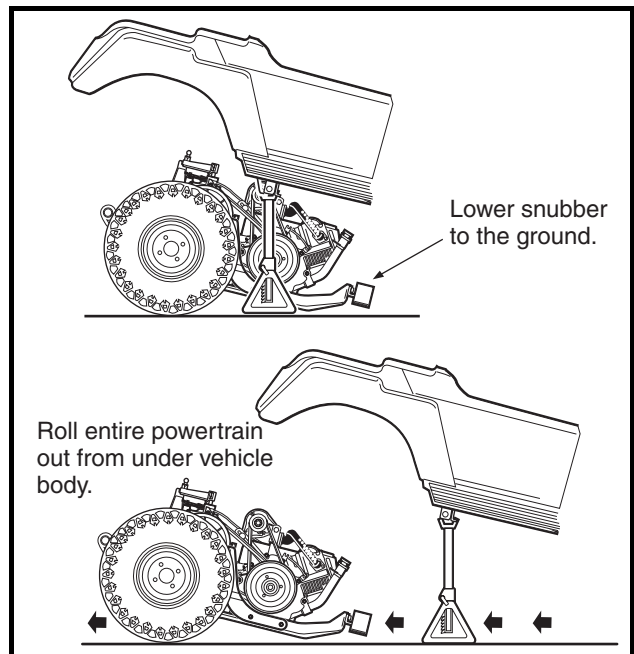

Figure 18-27 Remove Powertrain
- Grasp the ends of the leaf springs at the rear of the vehicle and roll the powertrain out from under the vehicle (**Figure 18-27, Page 18-11**).